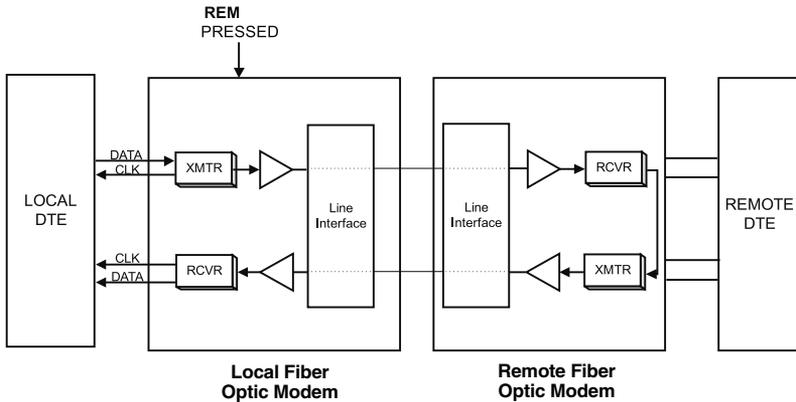

Figure 5-2. Fiber Optic Modem in Remote Digital Loopback (RLB).
The Remote Digital Loopback (RLB) test determines the performance of the local and the remote Fiber Optic Modems as well as their interconnecting lines. The Remote Digital Loopback sets a loop at the remote Fiber Optic Modem from the terminal coupled to the local unit (see **Figure 5-2**).
1. Press the REM pushbutton on the front panel to provide a loopback at the remote Fiber Optic Modem (see **Figure 5-2**). (This test can also be activated via the pin on the DTE interface.) The TEST LED lights at both the local and remote units.